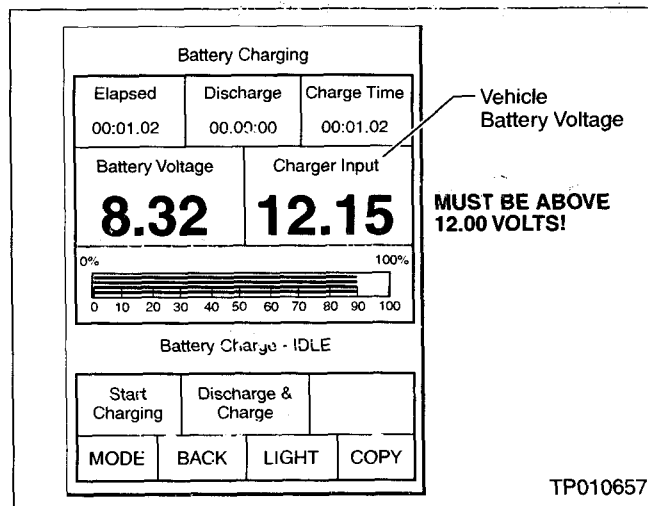

Figure 16
24. After about one minute has passed, check the vehicle's battery voltage reading on the CONSULT-II screen (see Figure 16).